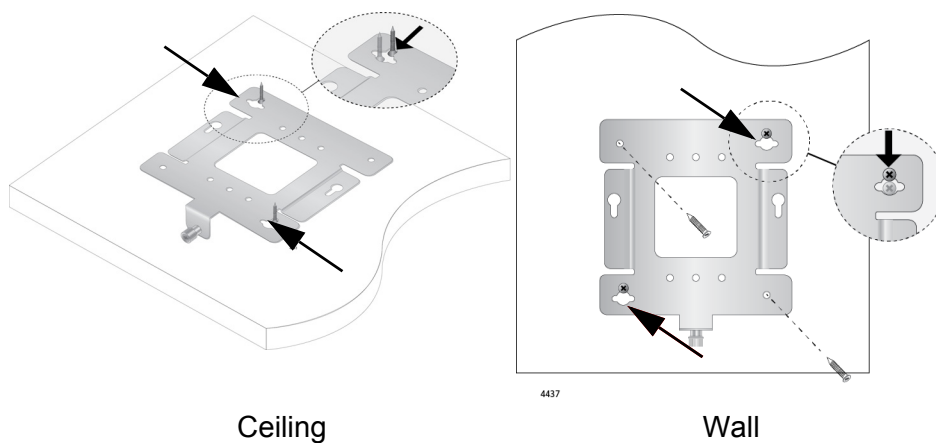

Figure 9. Mount Bracket On Screws Using Key-Hole Slots
4. Insert the openings of the bracket key-holes under the two screw heads and slide the bracket into narrow end of the key-hole slot opening. Refer to arrows in Figure 9. Tighten the screws snugly onto the bracket.